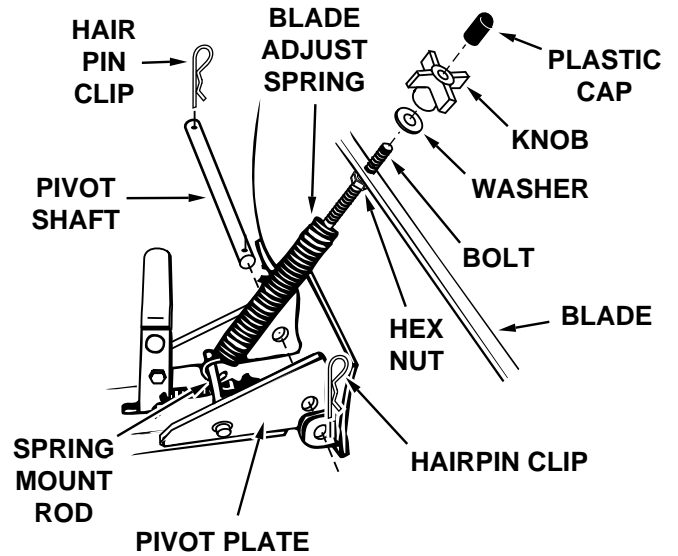

Figure 2
5. Remove the plastic cap, the knob and the washer from the blade adjusting spring bolt. Adjust the hex nut on the bolt so that it is screwed approximately 1" onto the bolt threads. Hook the spring over the spring mount rod as shown. Place the bolt through the hole in the top of the blade and reassemble the washer and the knob onto the bolt. Screw the knob down until tight against the blade and the hex nut. Place the plastic cap over the end of the bolt. See figure 2.